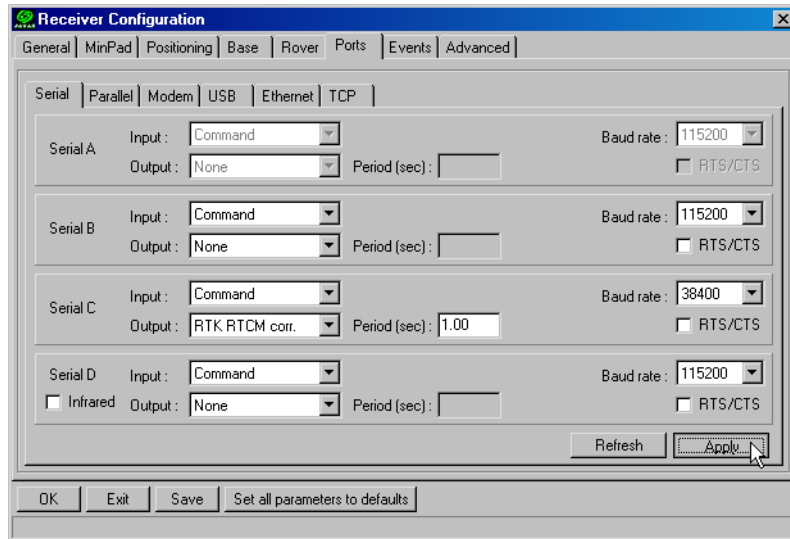

Figure 3-12. Base Configuration – Ports
11. Select the **Ports** tab and set the following port parameters (Figure 3-12 on page 3-17). Use serial port C for an internal PDL and GSM modem.